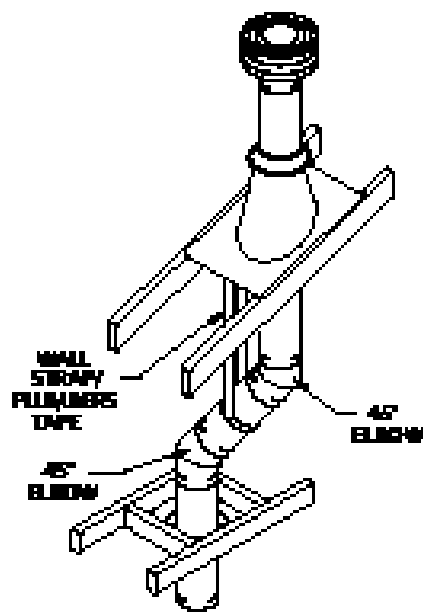

Figure 16
(2) If an offset is necessary in the attic to avoid obstructions, it is important to support the vent pipe in order to avoid excessive stress on the Elbows. Wall Straps or plumbers tape may be used for this purpose (Fig. 16).
(3) Whenever possible, use 45° Elbows instead of 90° Elbows. The 45° Elbow offers less restriction to the flow of flue gases and intake air.
Step 7. Slip the Roof Flashing over the Pipe Section(s) protruding through the roof. Use a non-hardening sealant between the Roof Flashing and the roofing to prevent water leakage. Secure the base of the Roof Flashing to the roof with roofing nails. Ensure the roofing material overlaps the top edge of the Roof Flashing (Fig. 16). Verify that you have at least the minimum clearance to combustibles at the roofline and in the attic.